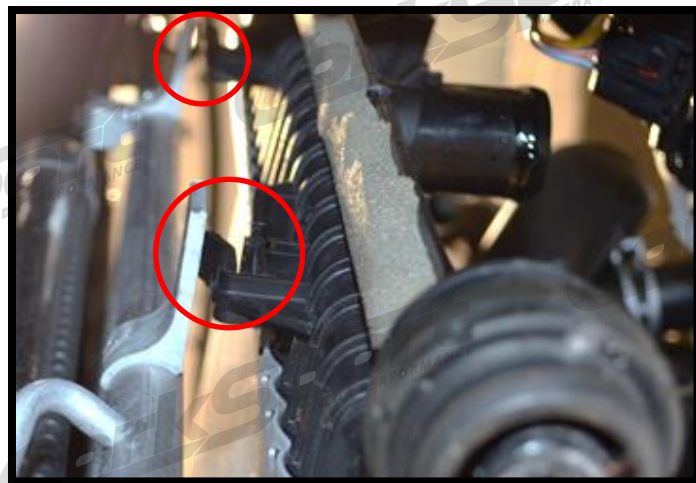

Figure 1m
- s) **By hand, reach up and slide the AC core out of the radiator tabs** (**red circles** in **Figure 1m**).
- s) By hand, reach up and slide the AC core out of the radiator tabs (red circles in Figure 1m).